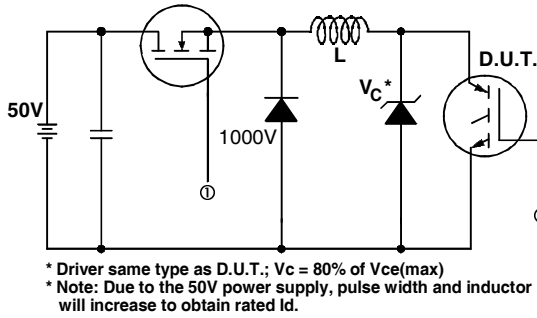

Fig. 13a - Clamped Inductive Load Test Circuit
- ② $V_{CC}=80\%(V_{CES}), V_{GE}=20V, L=10\mu H, R_G= 5.0 \Omega$ (figure 13a)
- ③ Pulse width $\leq 80\mu s$; duty factor $\leq 0.1\%$.
- ④ Pulse width $5.0\mu s$, single shot.
- ⑤ Repetitive rating; pulse width limited by maximum junction temperature.